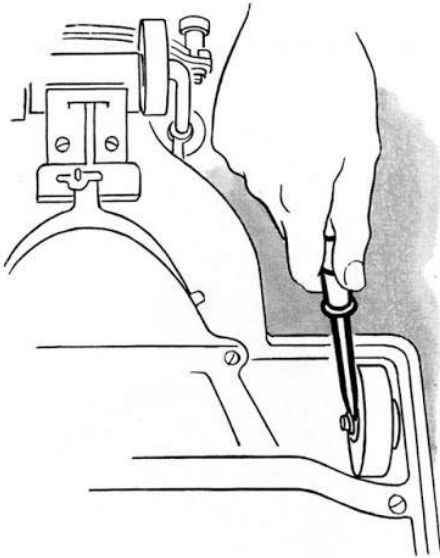

FIG. 115—Removing split lock ring from wheel shaft
3. If front wheel shafts are riveted to the main casting, pry off split lock rings to remove **front wheels**. Figure 115. Use wrench to remove threaded **front wheel shafts**.